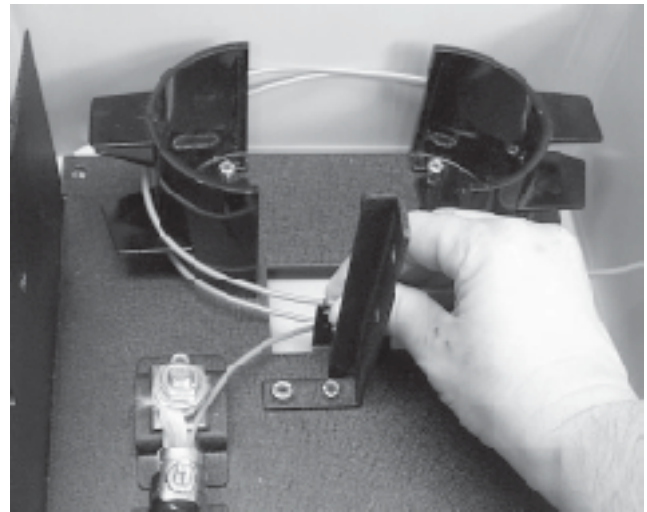

Figure 19
12.2 Route the buffer tubes twice around the radius guides in a counterclockwise direction. Mark the location of the mounting bracket on the buffer tubes as shown in Figure 19 to determine the length required.